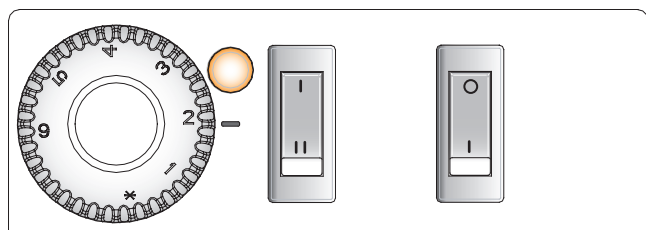

Fig. 4
**Control of Output and Temperature** (see Fig. 4)
Switch on the heater and turn the thermostat knob to mark 6 opposite the indicator mark (located on centre right of the knob - see Fig. 4 & 5), and set selector switch to full heat output to warm the room rapidly. When the room temperature has reached the desired level, turn the thermostat knob back slowly until the thermostat just clicks off. The heater will then maintain the room temperature at the chosen level, provided that the correct size of heater has been selected for the room to be heated.